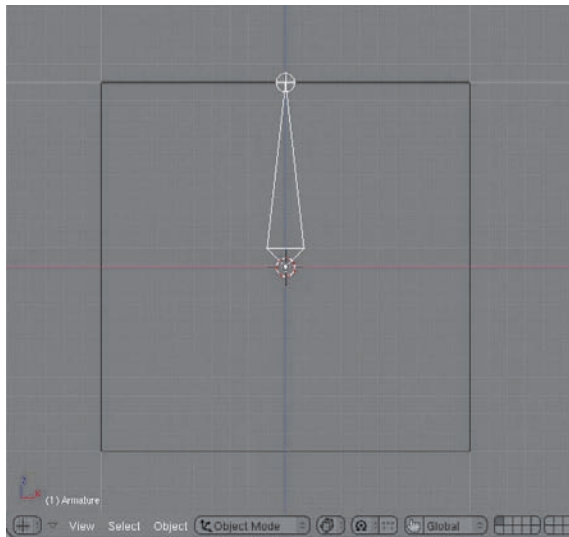
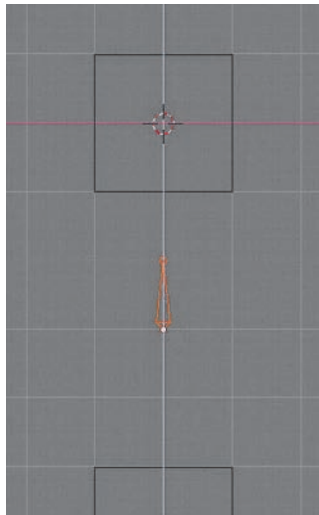
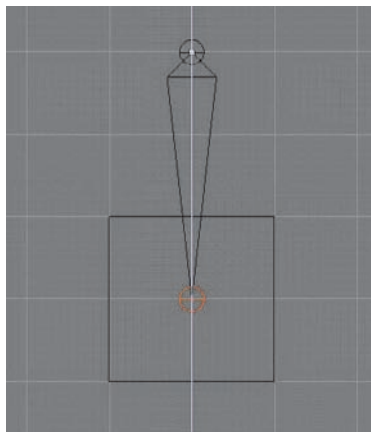

Figure 6.29
Figure 6.30
Figure 6.31
2. Add an armature at the original cube's location, as in Figure 6.29. In Object mode, translate the Armature object 3 BUs down the Z axis, as shown in Figure 6.30. In Edit mode, translate the tip of the armature downward to the middle of the second cube, as shown in Figure 6.31.